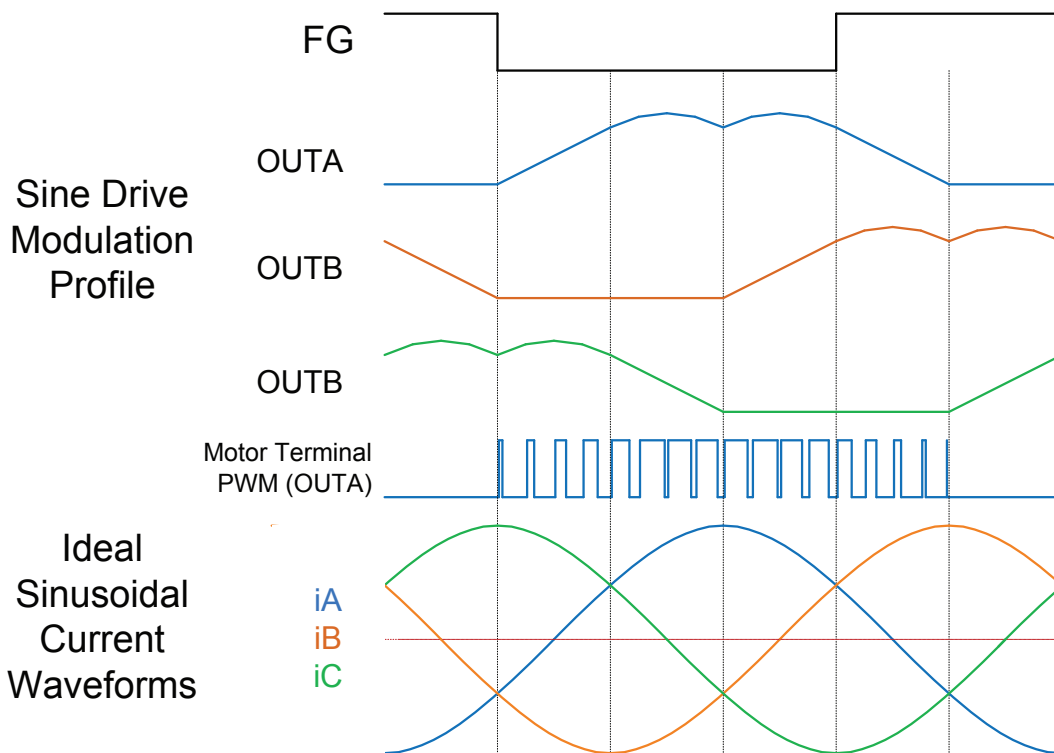

Figure 1. Sinusoidal PWM
to the three motor outputs, with 120 degree phase relationship, to create the sinusoidal current waveform as shown in Figure 1.
**FG.** Open drain output provides speed information to the system. FG changes state one period per electrical revolution of the motor (as shown in Figure 1).